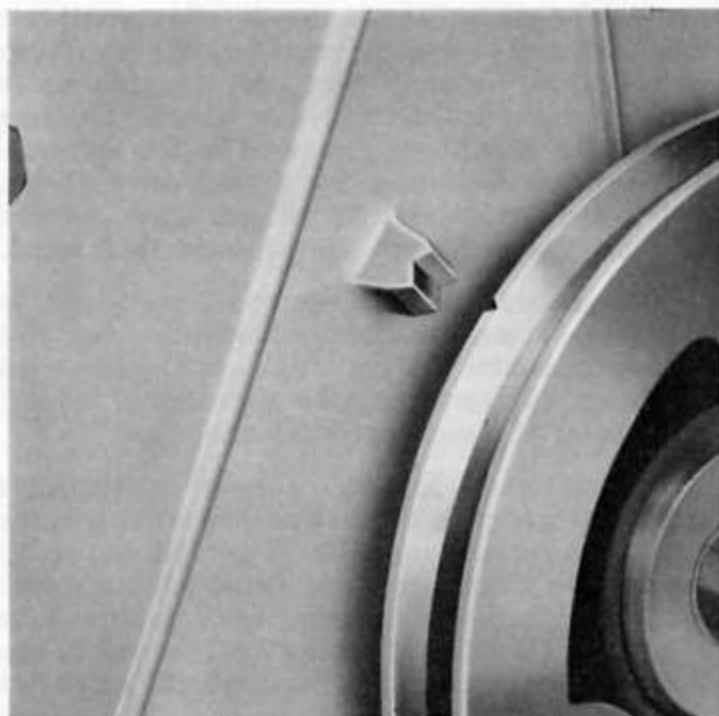

Fig. 30
1. **Set the engine**, with the upper timing mark on the timing cover in line with the notch in the crankshaft pulley as No. 1 piston comes up on the compression stroke (see Fig. 30).
(b) The static advance of 6° before T.D.C. is "built in" to the engine and when No. 1 cylinder is on the compression stroke and the notch on the crankshaft pulley is midway between the upper and lower timing marks on the timing cover (see Fig. 30) the crankshaft is at the static advance setting and no further adjustment is required at this stage, see operation 5.
Continue turning the engine until the notch on the crankshaft pulley is midway between the upper and lower timing marks on the timing cover (see Fig. 30).
6. Point the timing light at the timing indicator. Check that the upper indicator and the notch on the pulley are in line (see Fig. 30).